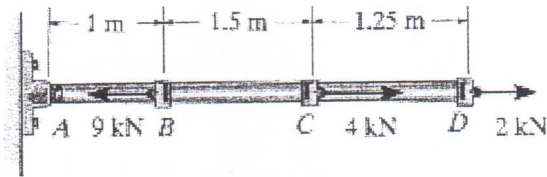

Figure 6.
- (9) The steel rod shown in Figure 6 is subjected to the loading shown. If the cross-sectional area of the rod is 50 mm^2 , determine the displacement of its end D . Neglect the size of the couplings at B , C , and D . ($E = 200 \text{ GPa}$.)